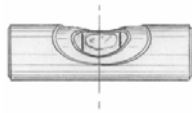

Figure 2
2. Turn the revolving turret until it indicates a balance point. See Figure 2. If you are using a digital protractor with an "Alt-0" function, set this position as the Alternate 0°, then place the protractor as described in step #4 to measure the blade angle.